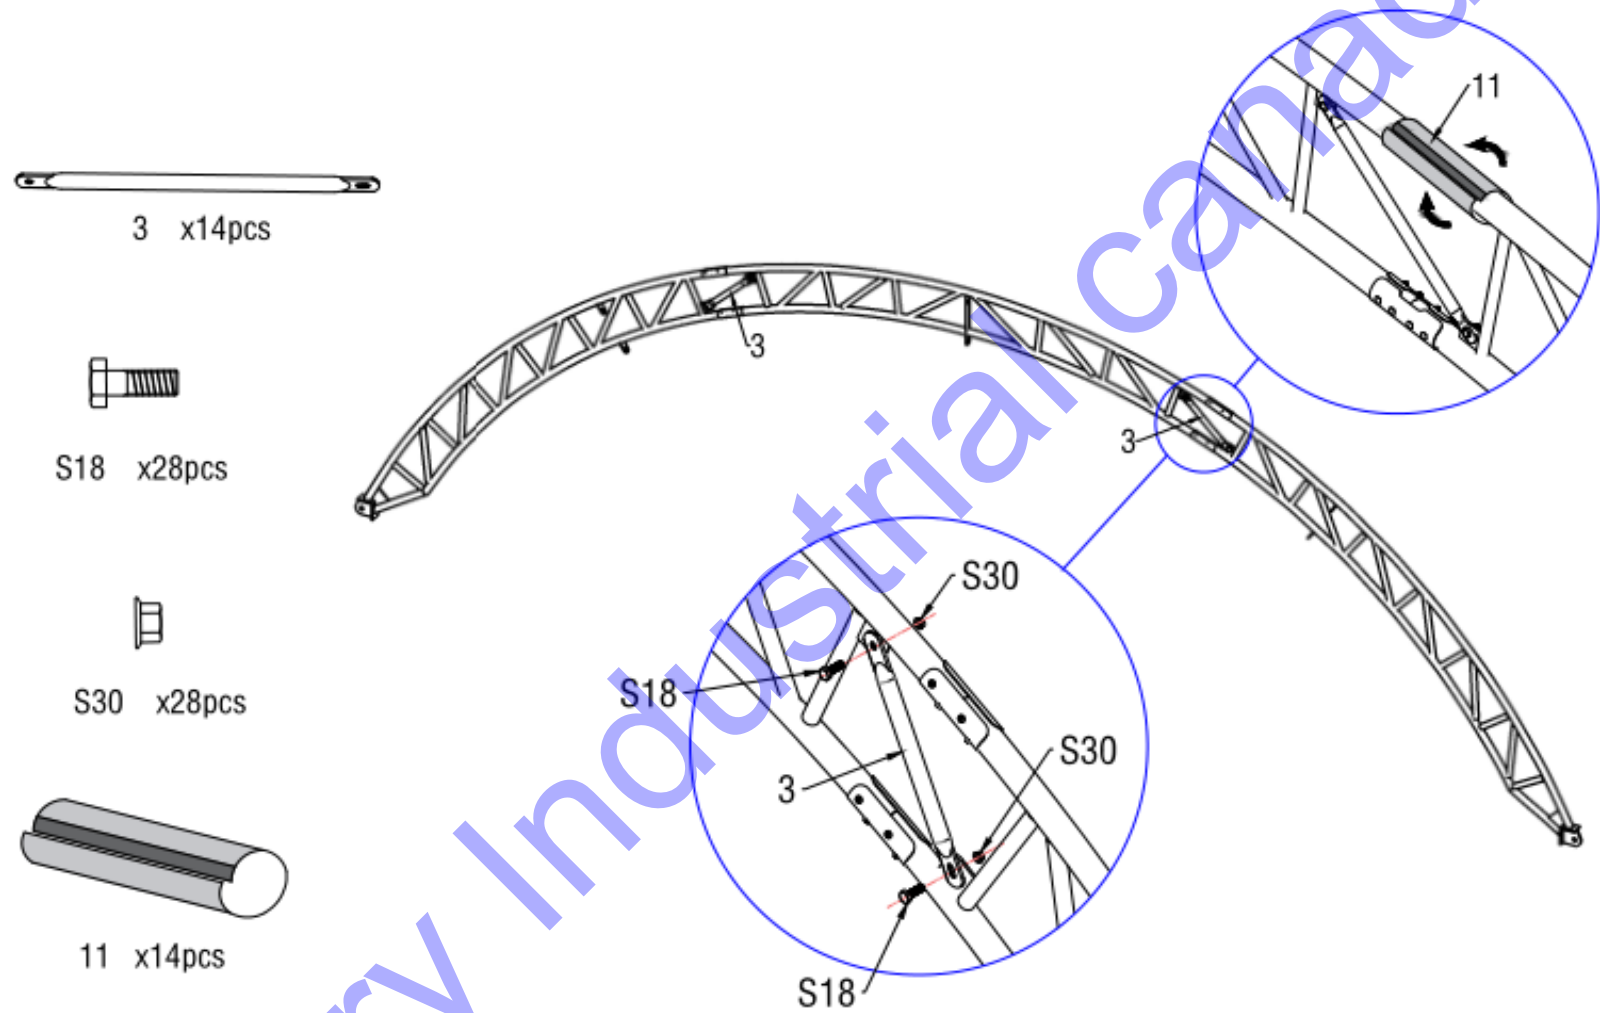

Figure 3
2.2 As Figure 3 shows, install the Supporting Webbing between the arch(No.3)by using Bolt M10x30mm(No.S18).Then put the PVC protective cover on the outer of connection of the arch to protect the roof cover from scratched by the outer joint.